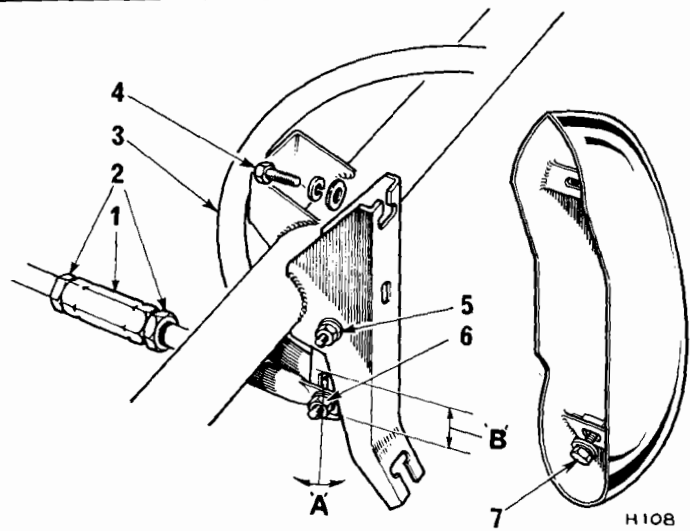

Fig. 10. Bonnet adjustment points (13/60 and Vitesse 6)
13/60 and Vitesse 6 only (Fig. 10)
Referring to Fig. 10, open the bonnet and release the overrides by removing bolts (7) and slacken upper bolts (4). Remove the overrides from the mounting brackets. Remove four cross/recess screws (2), Fig. 18, and four hex/headed screws (1) and (3) and pull the valance clear.
Open the bonnet and referring to Fig. 10 (page 5-205), slacken the upper bolt (4), remove the lower bolt (7) and remove the overrider.